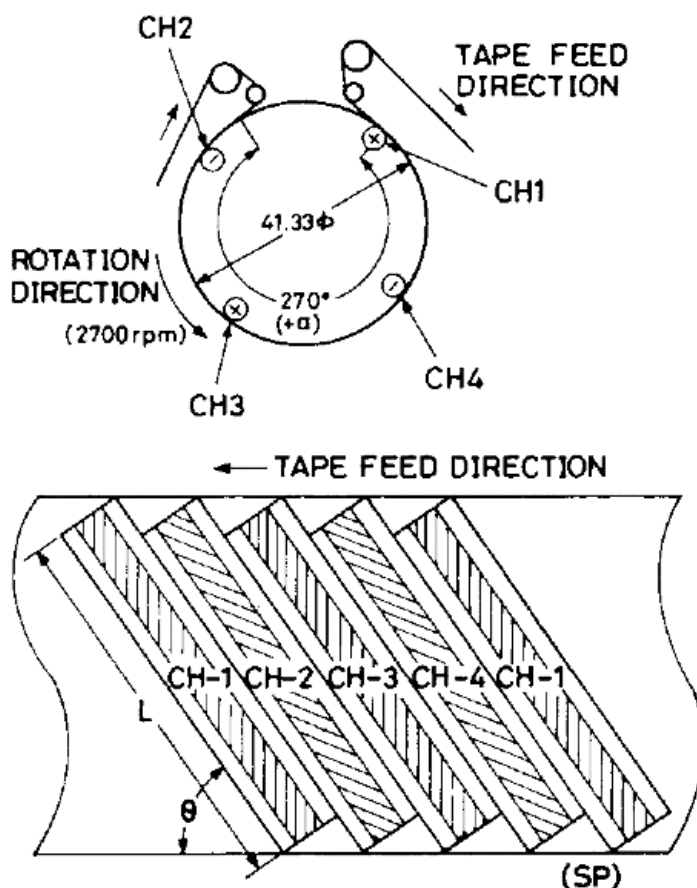
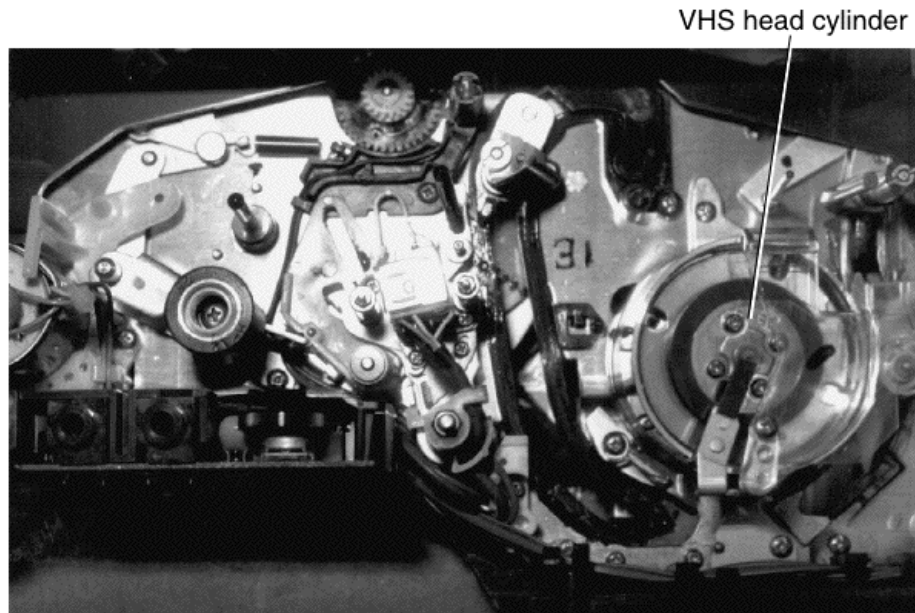

FIGURE 33-21 The VHS/VHS-C video head configuration.
FIGURE 33-22 The VHS head assembly in the RCA CPR300 camcorder.
Video heads The upper cylinder or drum in the VHS and VHS-C video recorders have a 41-mm diameter with four heads (see Fig. 33-21). The tape wrap for this system is 270 degrees, and it rotates at a speed of 2700 rpm. This system produces a more compact camcorder, providing compatibility with previous VHS recorders (see Fig. 33-22). The 8-mm drum is smaller in diameter and contains two channels and a flying erase (FE) circuit. The FM audio signal is recorded along with the video, rather than at the edge of the VHS tape.